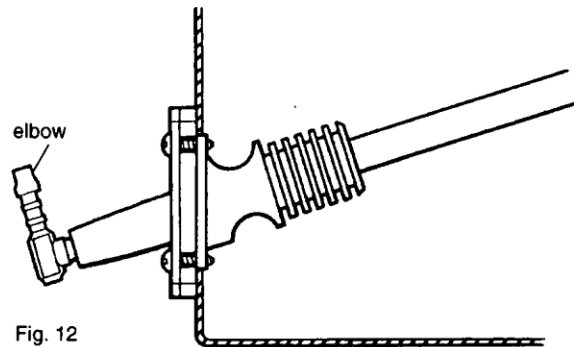

Fig.12
**6.8** Push the elbows into the adaptors. These may point in any direction to suit tubing runs to differential pressure measuring instruments. (see Figs. 12 or 13).